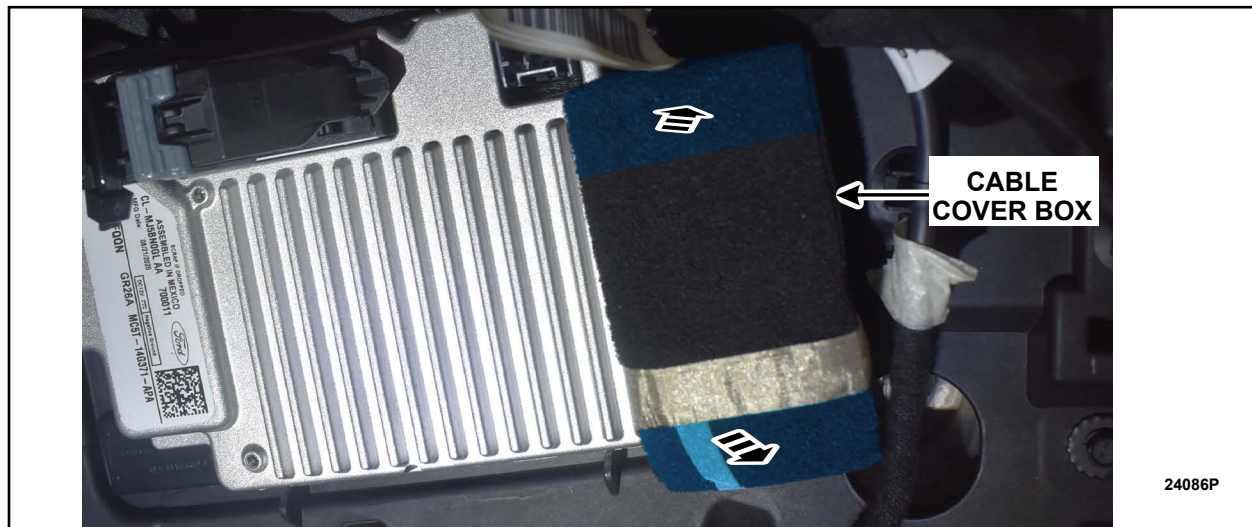

FIGURE 14
15. Once the cable cover box is fully seated, press again at the top and bottom of the cable cover box to ensure that both snaps are engaged. See Figure 14.